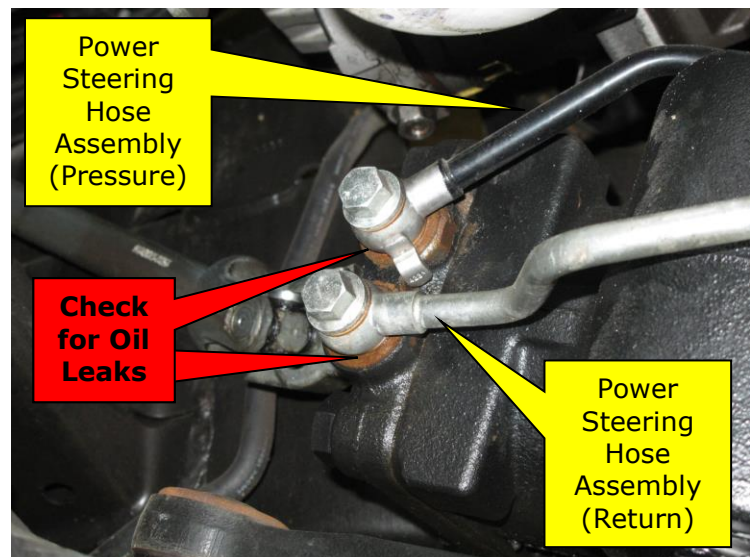

Figure 3
2. Inspect for **LEAKS** between the Steering Gear Box and Power Steering Hose Assembly (Pressure) and Power Steering Hose Assembly (Return) eye bolt connections (Figure 3).